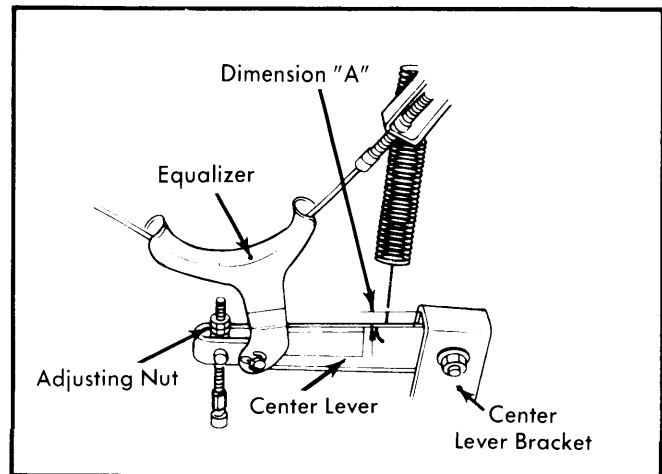

Fig. 1 Adjusting Center Lever (Sedan Models)
**Sedan** — Make sure rear brakes are correctly adjusted. Adjust front cable adjusting nut so that when parking brake is off, dimension "A" (see Fig. 1) is .28" (7 mm). Tighten lock nut. Now adjust rear cable adjuster so that when parking brake lever is pulled with specified force (see specifications) the lever stroke or the number of notches is as specified (see specifications). With parking brake off, make sure cables are slack and the rear levers are in their original positions.